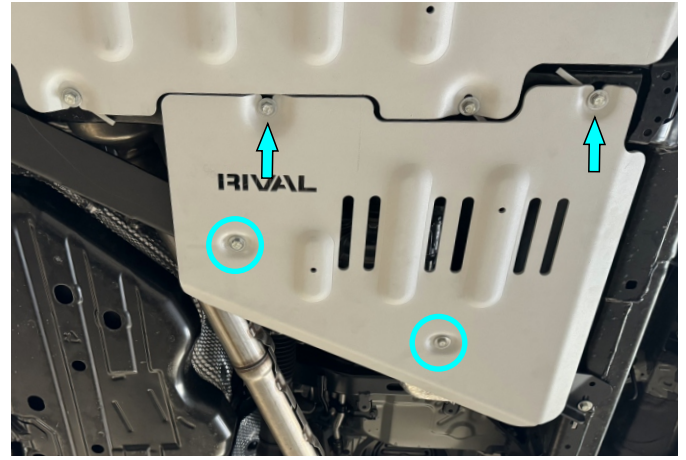

Fig. 6
6. Slide front part of skid plate under previously installed bolts M8. After that secure rear part using bolts M8x25 and washers M8 (items A, B) as shown in fig. 6.